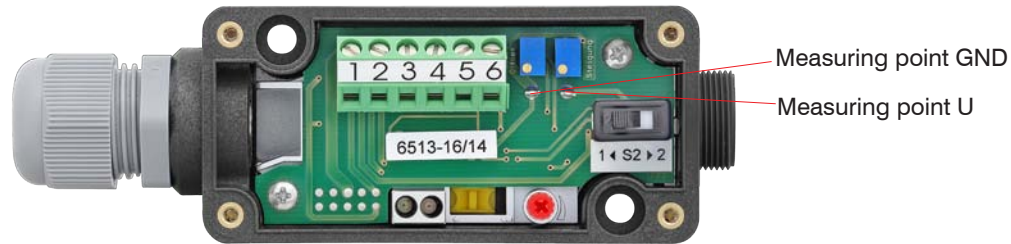
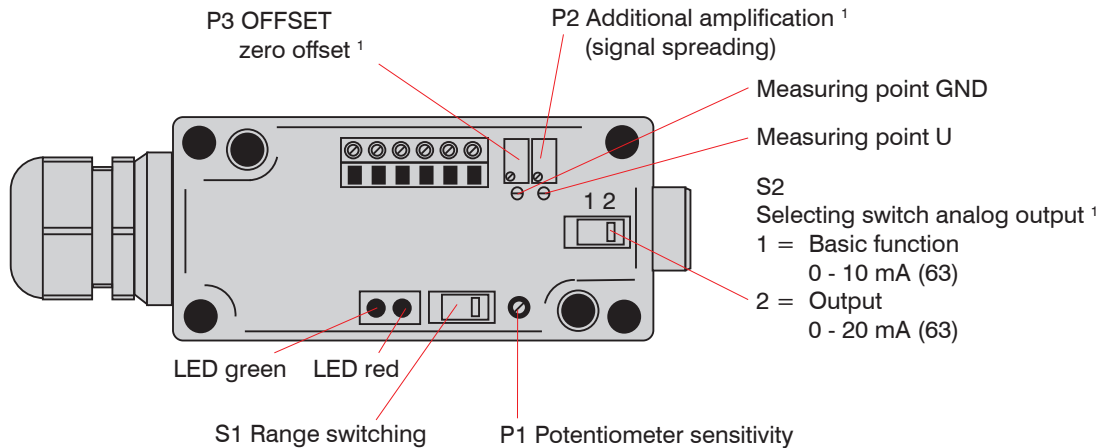

Fig. 16 View on operating and display elements models CLS-K-60 /-63/ -65
Fig. 17 Operating and display elements models CLS-K-60 /-63/ -65
- 3 A multimeter 0 – 10 VDC is connected to the measuring points “GND” and “U”, see Fig. 16, see Fig. 17 (S2: “2“; 10 V = 20 mA) for the adjustment procedure.